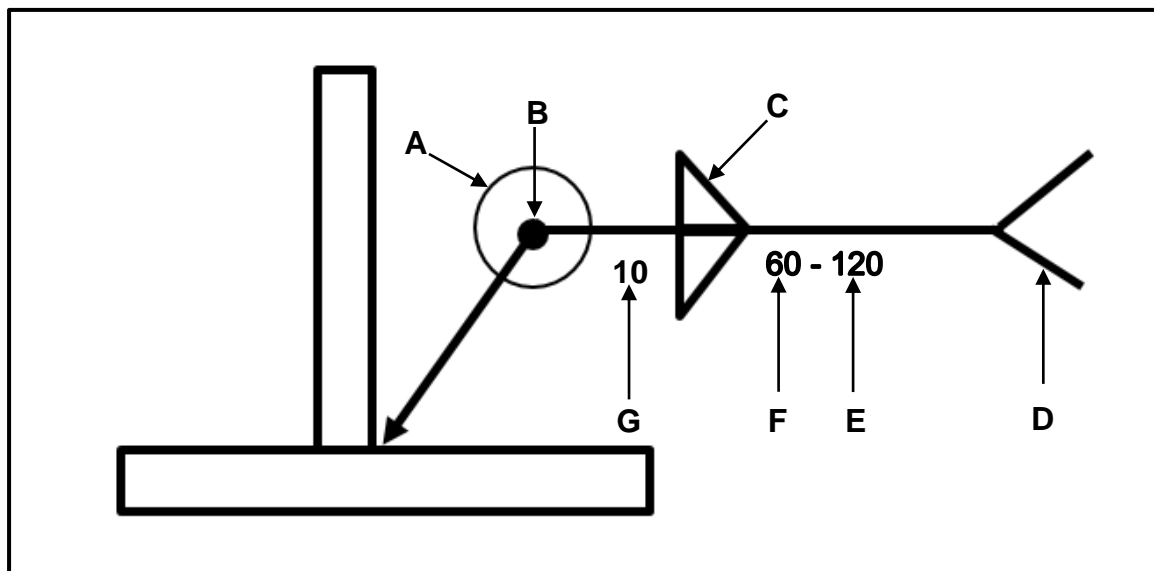

FIGURE 5.3
- 5.3 FIGURE 5.3 below shows a drawing with relevant welding information needed to manufacture a component.